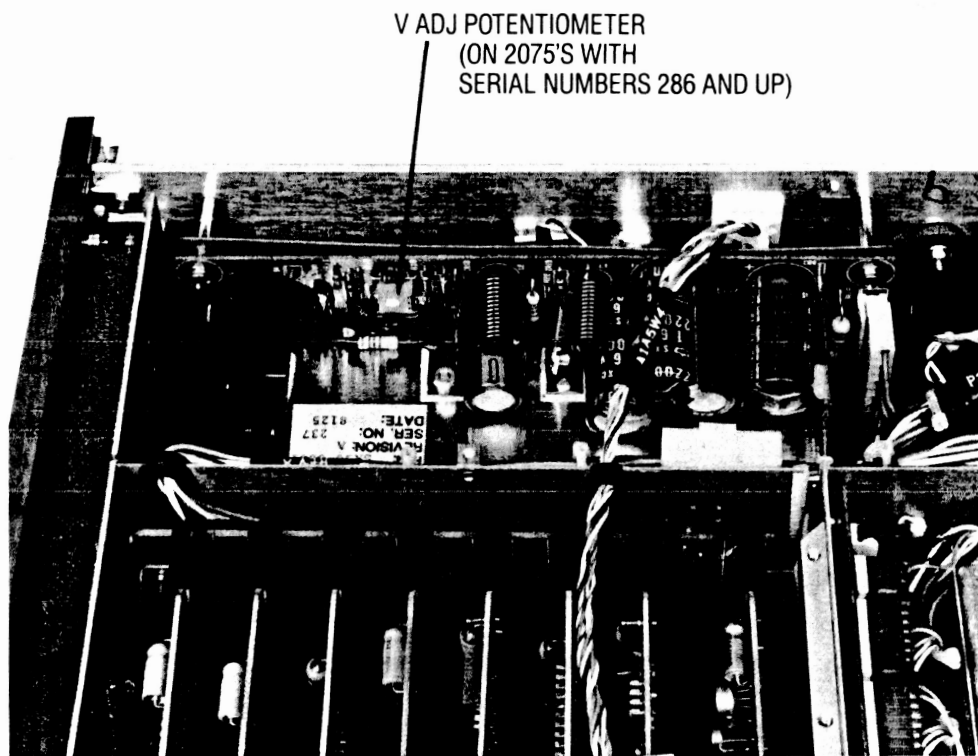

Figure 3-3. LOCATION OF V ADJ POTENTIOMETER
5. If the voltage is not within the specified range, adjust the VADJ potentiometer located on the power supply board. See Figure 3-3 for the location. Adjust the voltage to +5.1 volts \pm .05 volts.